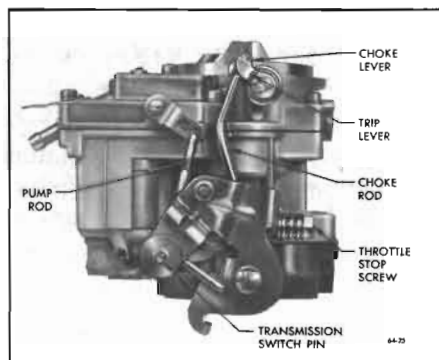

Figure 64-25—Choke Linkage
15. Install choke rod into choke lever and fast idle cam. Install fast idle cam screw and tighten securely. See Figure 64-25 for proper installation.